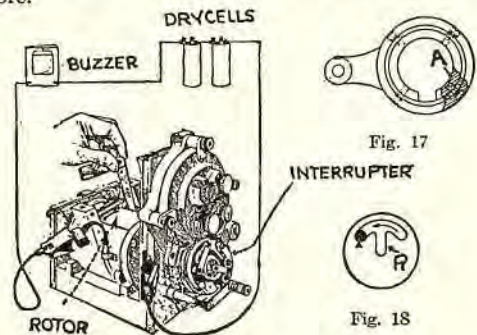

Fig. 16
Fig. 16. A simple method of synchronizing the position of the rotor with the time of opening of breaker points, is explained below, and as shown in Fig. 16. Contact points should separate .020" when opened by cam.
To facilitate this setting of the relation between the rotor and separation of contact points, a buzzer can be used, as shown in Fig. 16. The most effective distance for (X) is never varied on the Dixie.